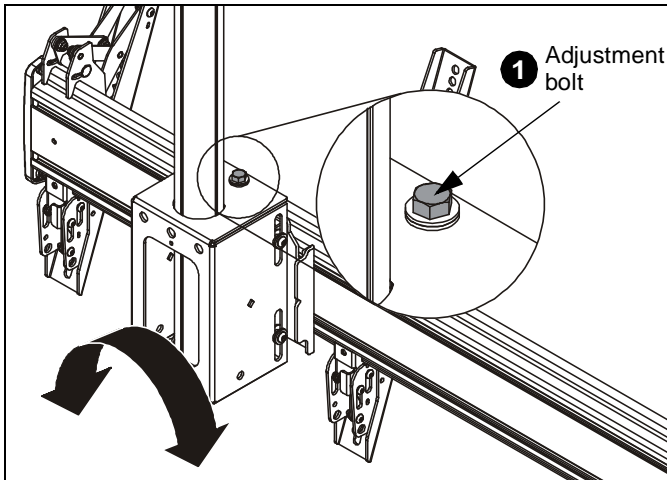

Figure 15
1. Turn the adjustment bolt in the direction necessary to level or adjust height. (See Figure 15)